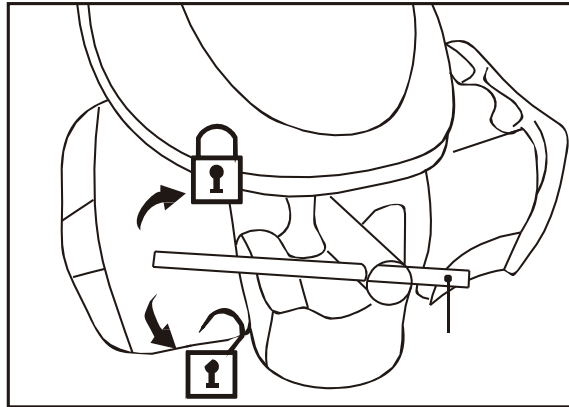

Fig. 27
2. Loosen the spark plug anti-clockwise using the spark plug wrench (30) and remove it carefully (Fig. 27).